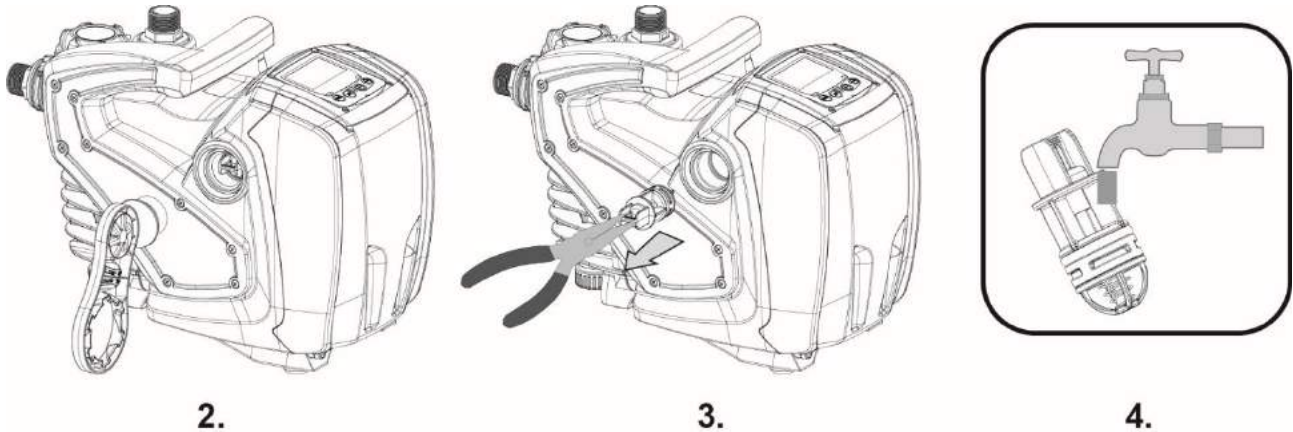

Figure 8
2. using a screwdriver or special accessory meant for the purpose remove the breather cap to be able to access the non-return valve (Fig. 8);
3. using pliers, extract the cartridge of the non-return valve without rotating it, gripping it by the jumper provided for the purpose (Fig.8): the operation may require a certain effort;
5. put the complete cartridge back in its seat: the operation requires the force necessary to compress the 2 O-Rings (Fig.8);
6. screw the breather cap to fit flush: if the cartridge has not been pushed correctly into place, screw the cap in to position it completely (Fig. 8).